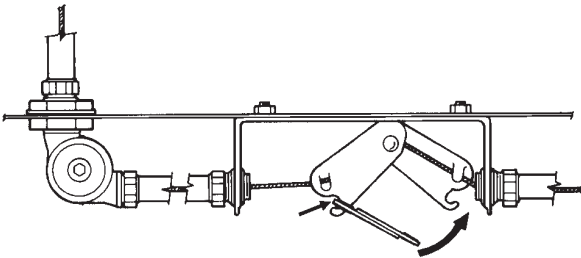
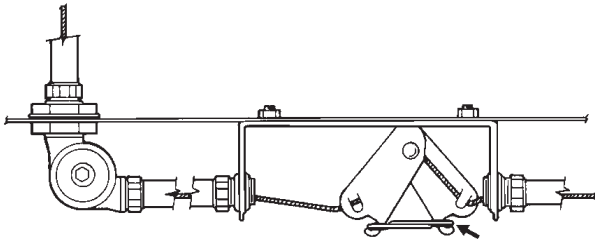

FIGURE 5-29
FIGURE 5-30
8. Hook the fusible link on the AUTOMAN release or remote release assembly side of the hook assembly, then pull the fusible link to the opposite side and complete the hookup as shown in Figure 5-29 and Figure 5-30. The top of the hook assembly must be inside the bracket stiffeners. The hook assembly with the ANSUL® fusible link in place must be located toward the terminal detector side of the bracket.